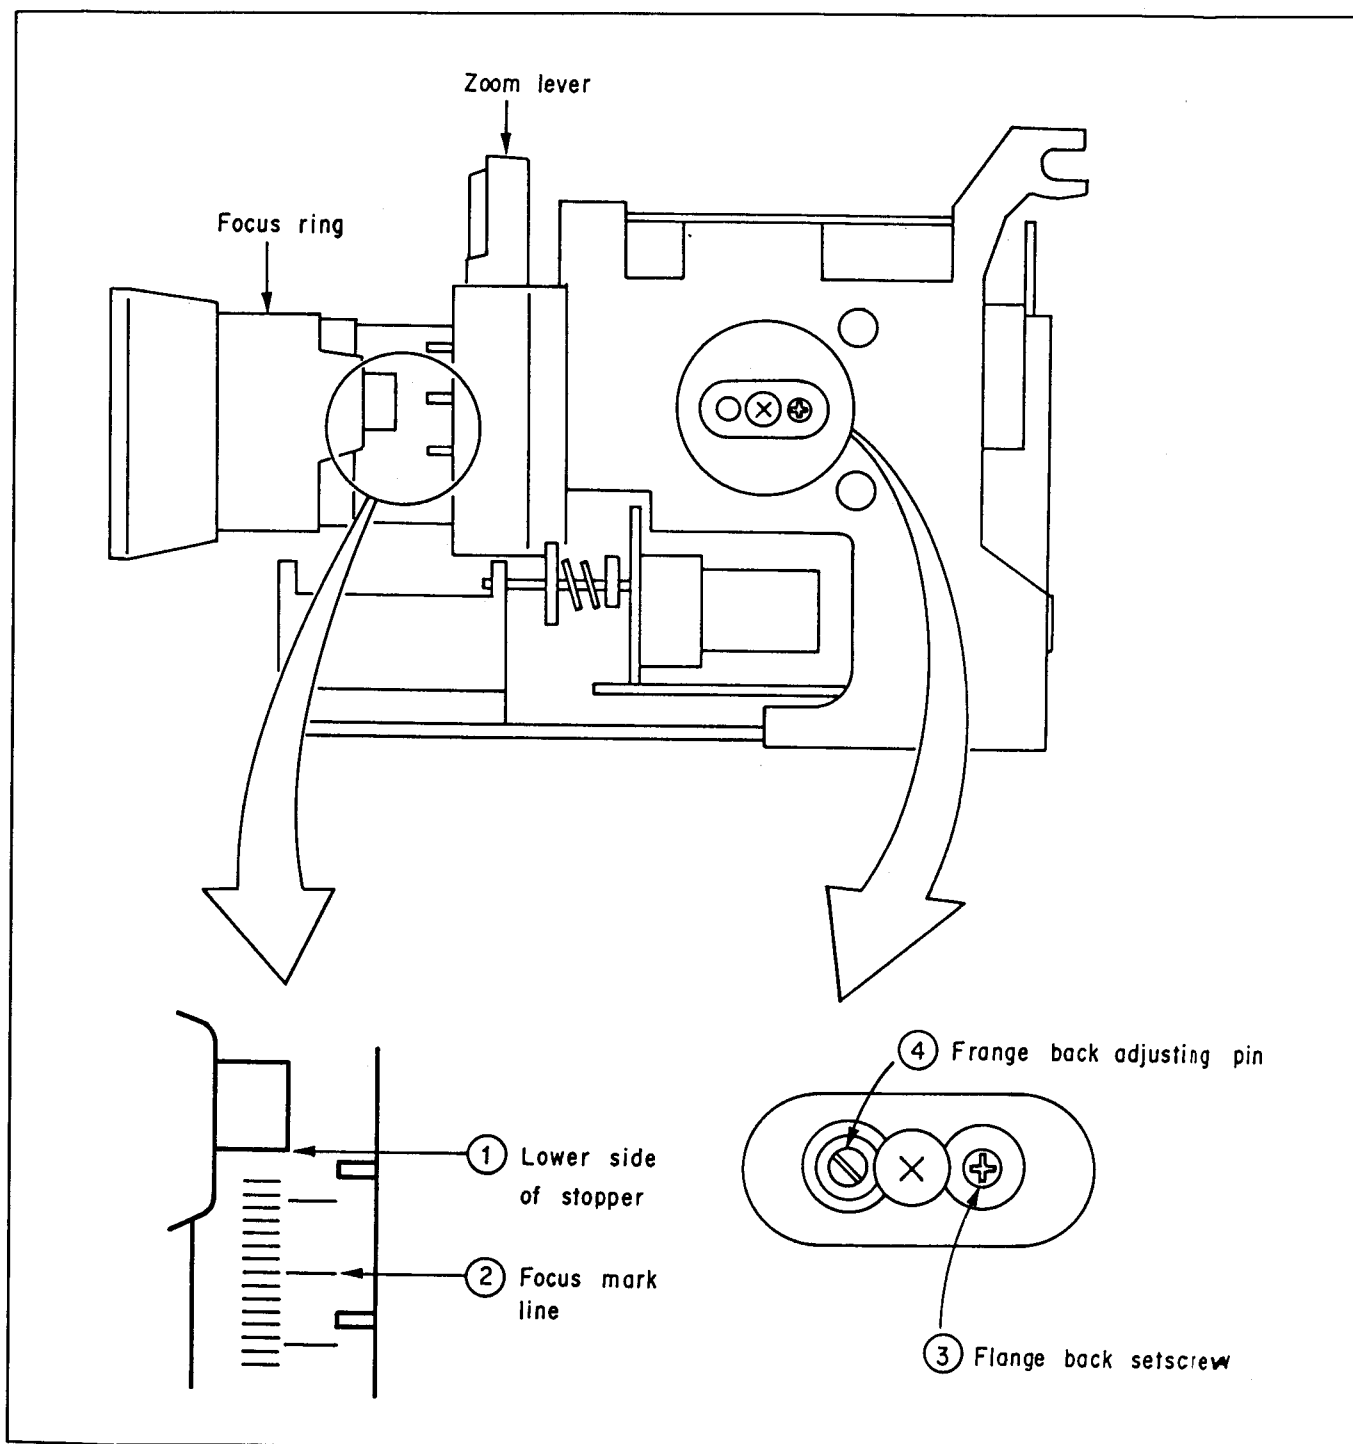

Fig. 8-9
- 7) Loosen flange back setscrew ③ with a Phillips screwdriver. (See Fig. 8-9.)
- 8) Overlap the stopper bottom end ① and focus mark line ②. (See Fig. 8-9.)
- 9) By turning the flange back adjusting Pin ④ while watching the monitor screen, attain the optimum definition of a wedge at the Siemens star center on the screen. (Turn it a few turns to the left and right to ensure optimum definition.)